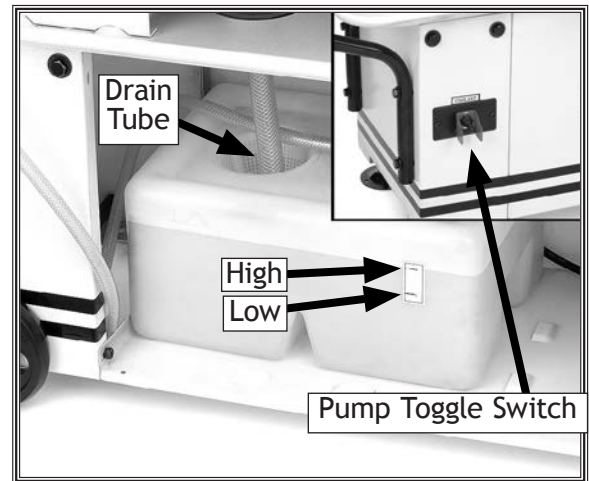

Figure 17. Correctly filled tank ready to be pumped.
3. Make sure the drain tube points toward the reservoir intake screen, and that all tube connections are tight and will not leak (see **Figure 17**).
4. Make sure the waterproof rubber switch boot is installed on the pump ON/OFF toggle switch (**Figure 17**), and that the toggle switch is in the down position.
NOTICE: NEVER operate the pump with the reservoir below the low mark (**Figure 17**), or the pump can be destroyed!